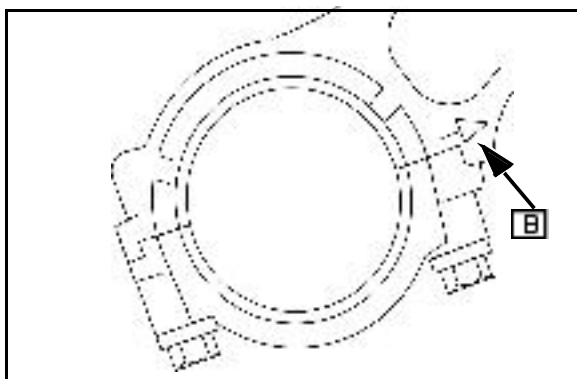

Fig. 23
**NOTE:** Install rod cap with match marks ([A] Fig. 23) aligned. Connecting rod cap should snap on when assembled correctly.